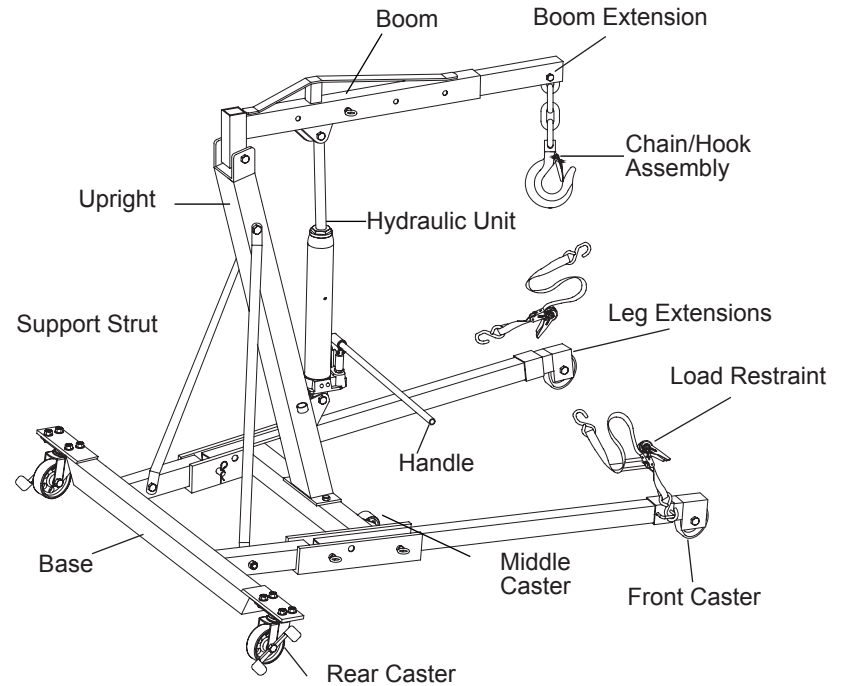

Fig. 1 - Engine Crane Nomenclature
**BEFORE USE** (refer to Fig.1 and Replacement Parts Illustration on Page 6 for location of components)
2. Verify that the product and the application are compatible, if in doubt call Pro-Lift Customer Support @ (888)332-6419.